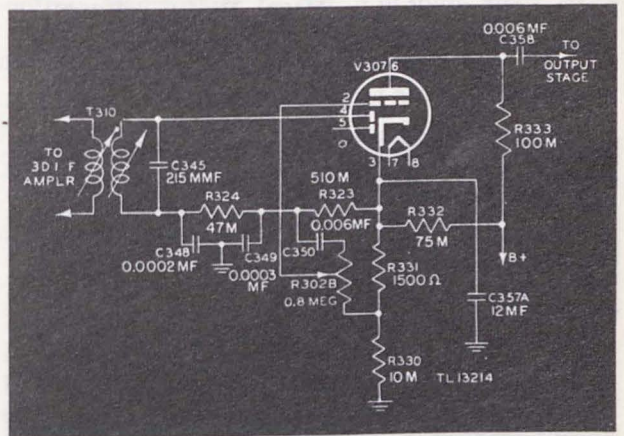

Figure 42. Radio Receiver BC-652-A, functional diagram of detector, a-v-c operation.
b. The diode detector circuit changes slightly when switch S303 is in the AVC position (fig. 42). Audio voltages are developed across resistor R302B since it is in series with capacitor C350 and is connected across diode load resistor R323 through R331. Resistor R302B is a potentiometer and feeds the audio voltage to the grid of the triode section (a-f amplifier) of tube V307. Resistor R302B is therefore an a-f volume control in this circuit. Resistor R302A is removed from the circuit during